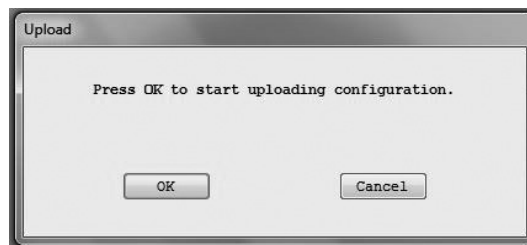

Fig. 3-85
- (1) Click "File (F)" from the menu, and then click on "Save File (S)" from the drop-down list of "Database (F)".
- (2) The following window (Fig. 3-85) will be displayed. To reflect the latest data, execute upload here. If it is cancelled, the file cannot be saved.